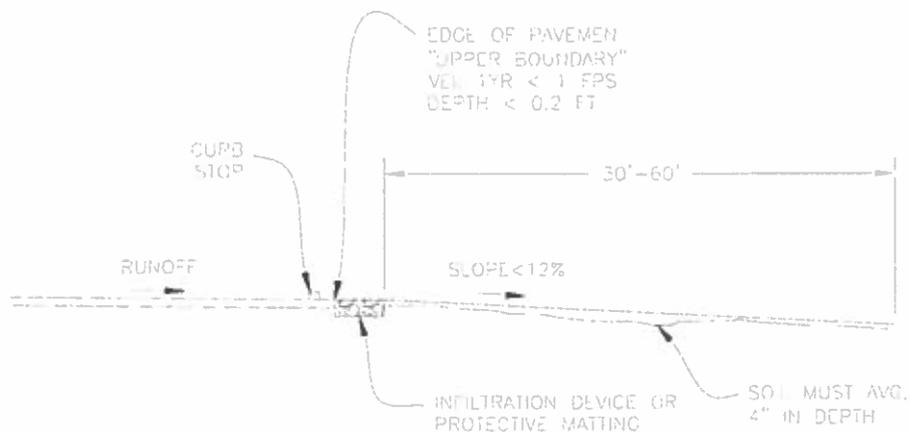

Figure 4-14: Natural Vegetative Filter Strip
- (3) *Slope Restrictions:* No portion of the natural filter area shall exceed a slope of 12%.
- (4) *Minimum Dimension in Direction of Flow:* The flow length over the vegetative filter or filter width must be at least 30 feet and no greater than 60 feet to be credited towards the required area. An additional level spreader, infiltration device, or berm may be added for additional length, effectively creating two filter strips in series.
- (5) *Upper Boundary Requirements:* The filter strip must run along the entire edge of the contributing area, no collection or routing allowed except following a water quality basin with flow attenuation or discharge from a level spreader to the filter strip. The soil along the upper boundary must be reinforced with protective matting or an infiltration trench (preferred) may be used. Refer to Figure 4.14 below.
- (6) *Velocity Restrictions:* Vegetative filter strips are susceptible to erosion and the formation of rills; therefore, may require the use of a flow spreader or an infiltration trench to spread flows and dissipate erosive velocities.